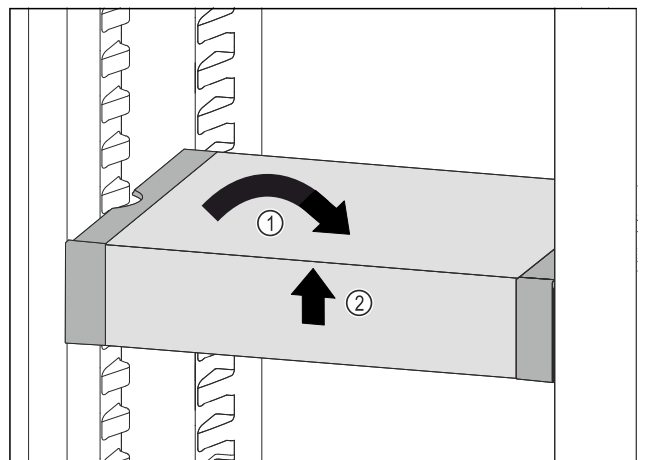

Fig. 113
- ▶ Set VarioSafe straight. Fig. 113 (1)
- ▶ Lift VarioSafe at the front. Fig. 113 (2)